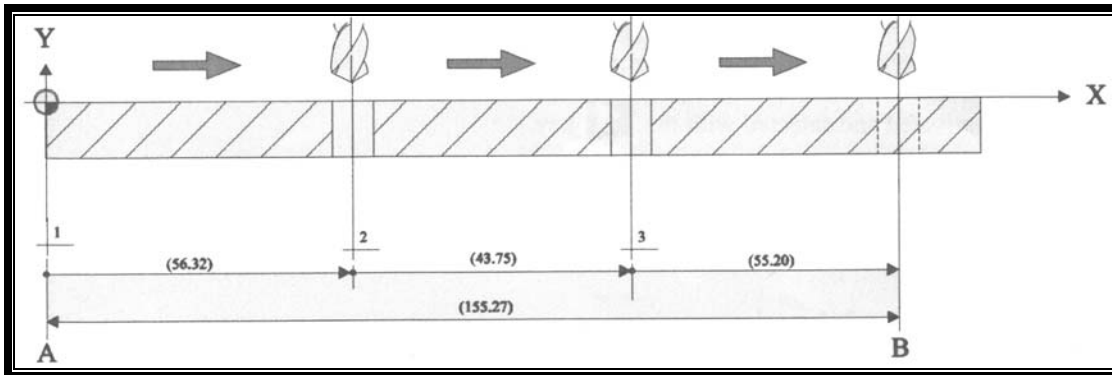

Figure 7 Incremental dimensions
Figure 7 below provides an example of incremental dimensions. The amount by which the tool has moved to each given position is added to the previous position(s) by the computer every time the display is zeroed. Examples of these incremental positions are 56.32, 43.75 and 55.20 mm respectively as illustrated in Figure 7. The absolute distance traveled is the sum of these movements, which is 155.27 mm as illustrated in Figure 7.
Table 11 below provides the description of how to obtain incremental readouts on the counter. The description uses Figure 7 above as the example for obtaining incremental dimensions.
1. Position the cutting tool at the work piece starting position (A in Figure 7)
10. Press orange  to recall the absolute position (Work piece starting position).	The LED above the  switches off. The total distance traveled of 155.27 is displayed (A – B in Figure 7).